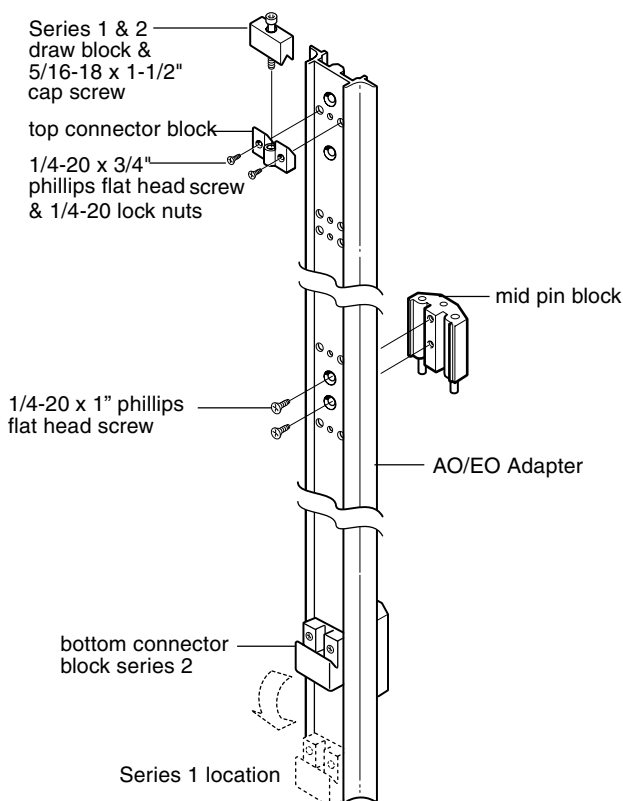

Figure 1
1. The adapter's *bottom connector block* is installed for Series 2, for Series 1 reinstall block at adapter's bottom. (Figure 1)
7. Install *draw block* with a 5/16-18 x 1-1/2" socket cap screw provided. (Figure 1)